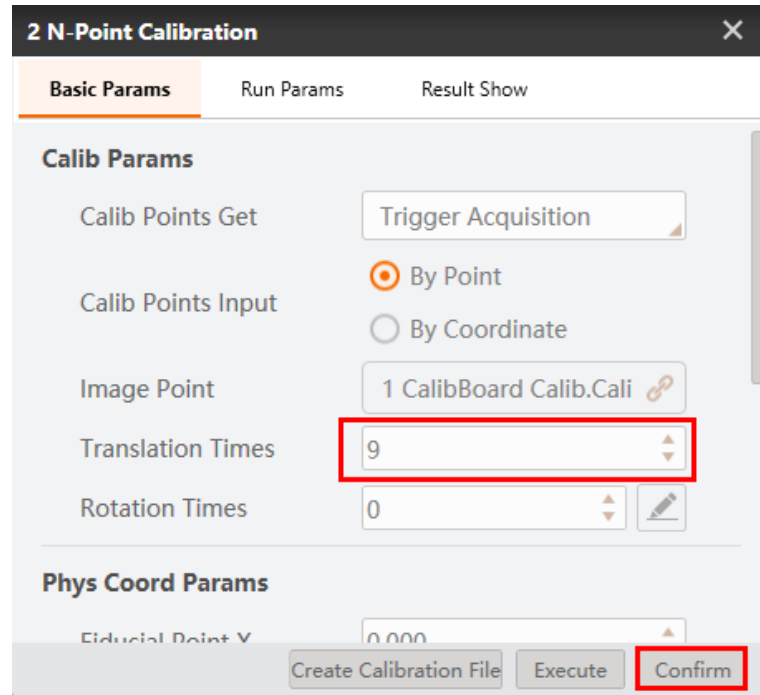
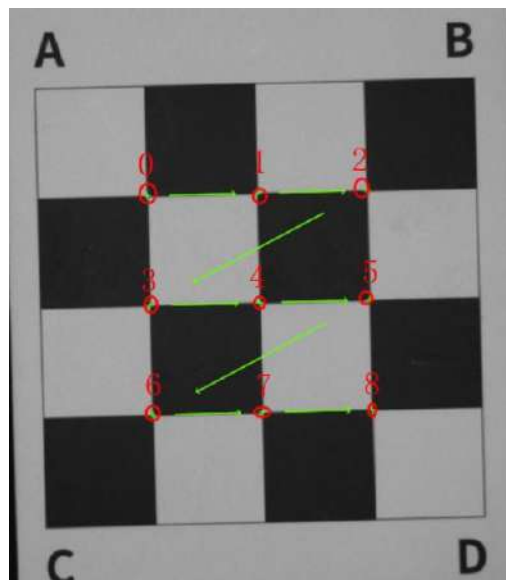

Figure 11.6 Set translation times
Figure 11.7 9 points calibration
1. Set **Translation Times** to 9, as shown in Figure 11.6, click  to get image. Calibrate 9 points in the order of the green arrow which is shown in Figure 11.7.
3. Jog X-axis and Y-axis on DobotStudio to make the pen move to the 9 points in the order of the green arrow which is shown in Figure 11.7, and write down every point value according to the corresponding ID on **Edit Calibration Points** page, and click **Confirm**.